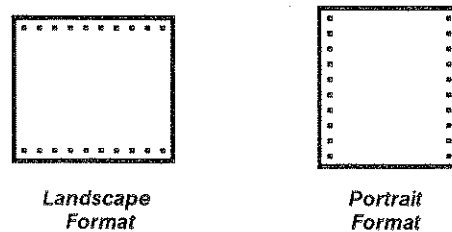

Figure 3-17: Hardcopy Formats
- Step 2:** Select the appropriate side menu item. You can choose **Landscape** or **Portrait** (see Figure 3-17).